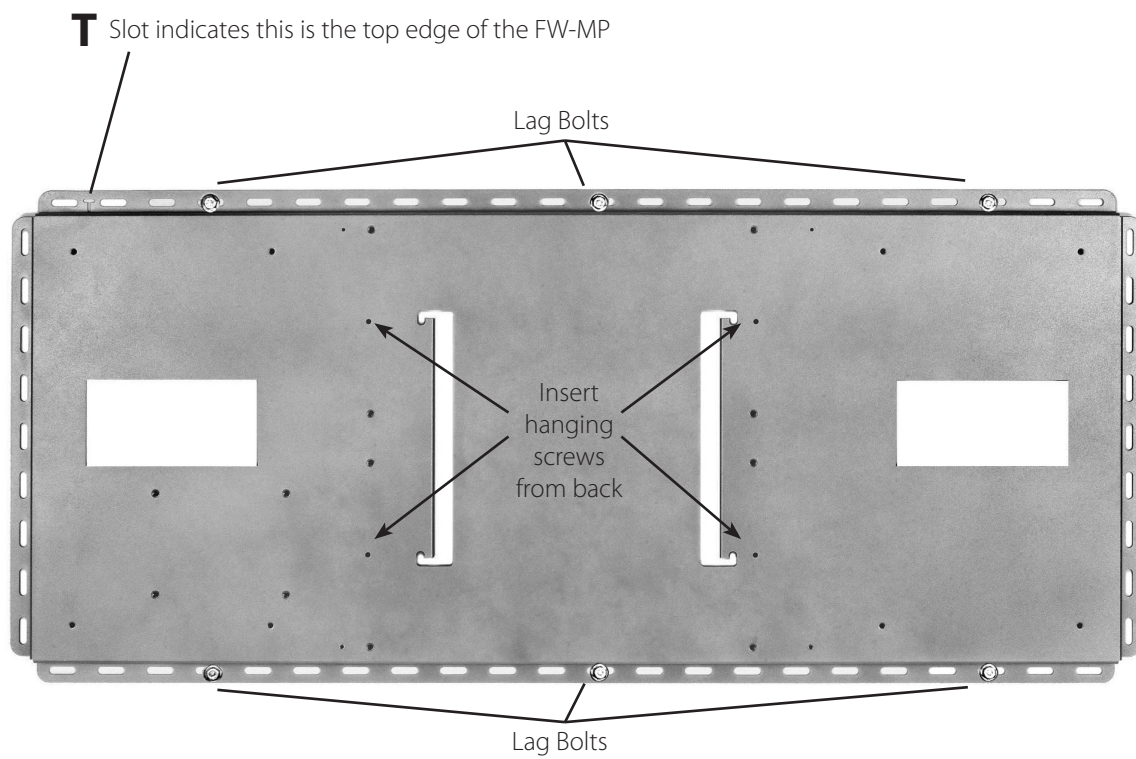

Figure 2: FLEXware Mounting Plate
- *Install the FX Series Inverter/Charger hanging screws (see Figure 2) for each FX used in the system before hanging the FW-MP to a wall. Install the hanging screws from the back of the FW-MP.*